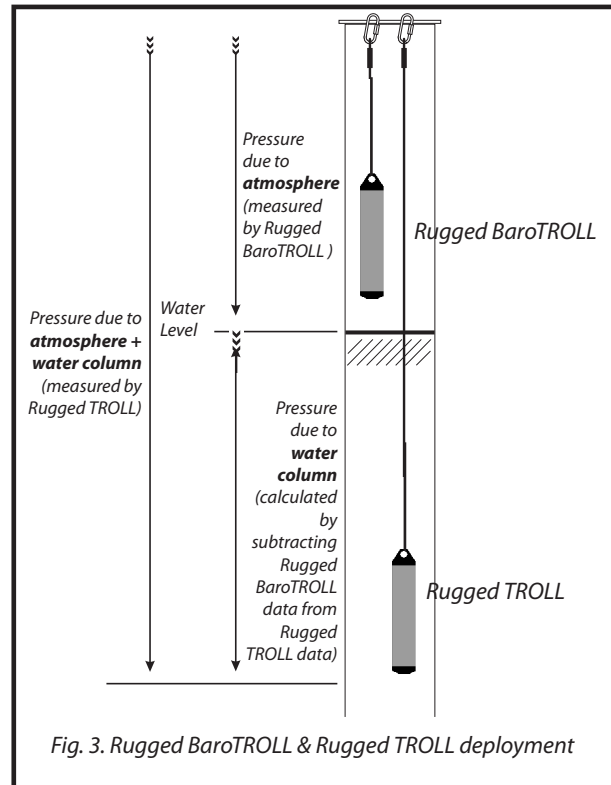

Fig. 3. Rugged BaroTROLL & Rugged TROLL deployment
- Disconnect, attach the hanger, and deploy the instrument suspended or lying in a protected location above water level, near the submerged Rugged TROLL 100 or 200. One possibility is shown in Fig. 3.
As shown in Fig. 3, the Rugged TROLL 100 and 200 instruments measure all pressure forces detected by their absolute pressure sensors. These forces include barometric (also called atmospheric) pressure and the pressure of the water above the sensor. As a result, logged data will show the effects of changes in barometric pressure. These effects can be removed manually (see the technical note "Manual Barometric Correction" in the Technical Resources section of the In-Situ website). To automatically remove barometric pressure effects, use Win-Situ Baro Merge software to post correct non-vented water level data.